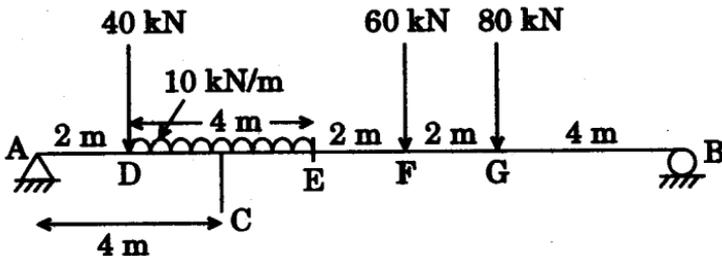

Figure 5
6. Using influence line diagram, determine the shear force and bending moment at section C in the simply supported beam as shown in Figure 5. 14